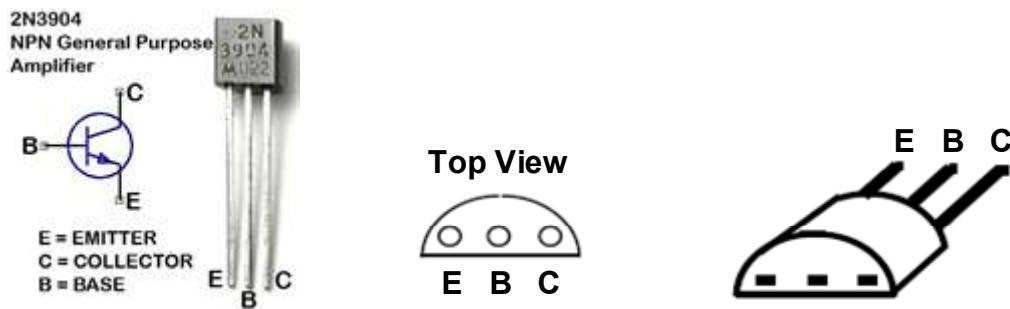

Figure 5.4: Pin diagram for BJT 2N3904
- Figure 5.4 shows the pin configuration of the 2N3904 transistor. Use the curve tracer to obtain the output characteristics of the NPN transistor. Set menu to BIP-NPN (bipolar-NPN), $V_{max} = 10$ volts, $I_{max} = 2\text{mA}$, and $P_{max} = 0.4\text{W}$.